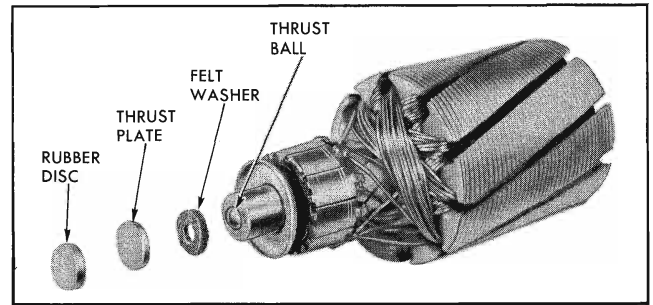

Fig. 11-88 Exploded View Armature Thrust Parts
5. Pull the armature out of the case and remove the brush springs, felt washer, thrust washer, thrust plate, and rubber thrust disc (Fig. 11-88) from the case assembly bearing as required.